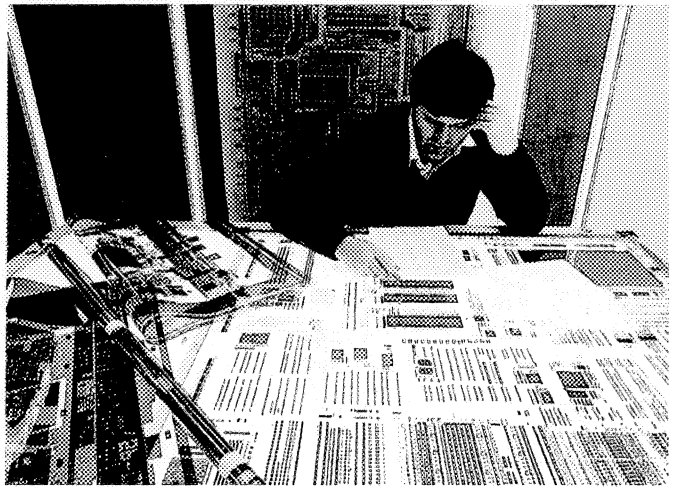

FIGURE 6.3 Light Table Used for Electronic Circuit Layout
**Light tables** are also used throughout industry to prepare printed circuit artwork, draw pictorial illustrations, and do tracing. Normally, the drawing surface is an opaque glass or plastic sheet that scatters the rays from the light source. Figure 6.3 shows a modern light table and reference desk. Here the tabletop and the light mechanism are an integral part of the drawing surface.